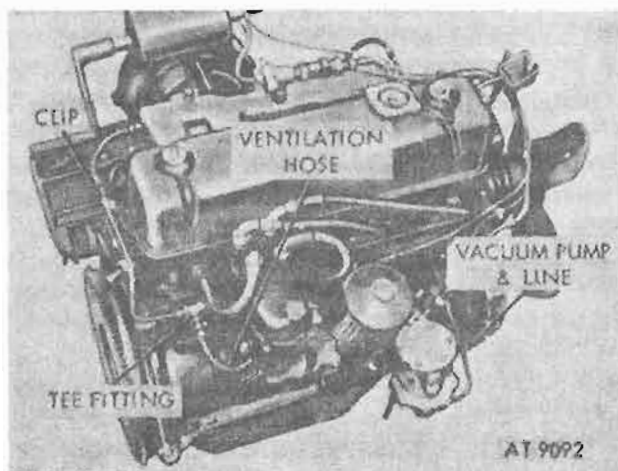

Figure 4-289. Distributor ventilation line and attaching parts (M151, M151A1, M151A1C and M718 vehicles).
Attach and tighten restricted connector (17) firmly in center tapped hole in "tee" fitting (8) and connect one end of "tee" fitting to tube nut on vacuum pump line (5). Connect and position two $\frac{1}{8}$ NPT 90° elbows (15) in tapped holes provided on distributor assembly. Connect two 3/16-inch O.D. hose connector tubes with 3/16-inch tube nuts (13) in each 90° elbow in distributor. Position and secure distributor ventilation line assembly (2) on top of crankcase ventilation line assembly with clip (3), and on vacuum pump line (5) with clip (4). Install distributor vent hose (11) and hose (16) with four hose clamps. Slip ventilation line (9) in clip (10) attached to rear engine lifting eye, and connect one end to $\frac{1}{8}$ inch NPT connector (6) in rear intake manifold, and other end to "tee" fitting (8). Tighten hose clamps, fittings and tube nuts firmly to provide waterproof connections (fig. 4-289).